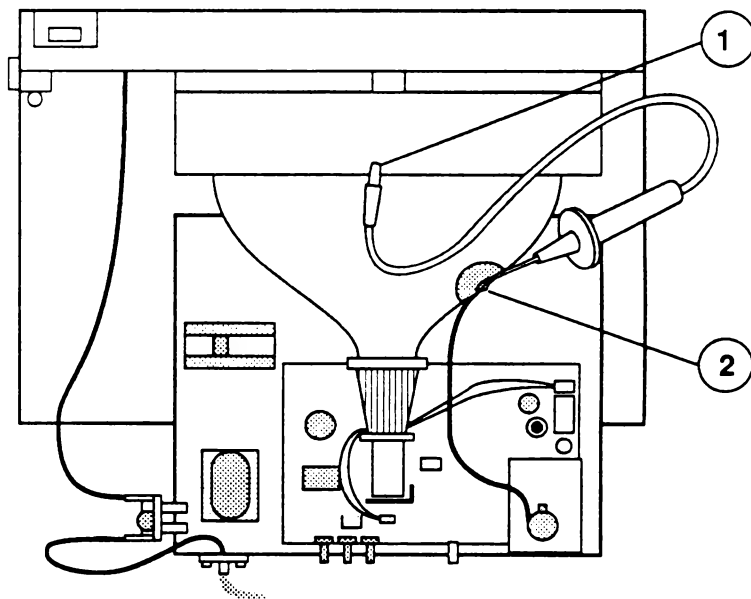

FIGURE 3
4. Attach the clip of the CRT discharge tool to any metal part of the chassis (Figure 3, #1).
6. Hold the CRT discharge tool to the tube surface, and insert its probe under the anode cap (Figure 3, #2) until it touches the anode ring.